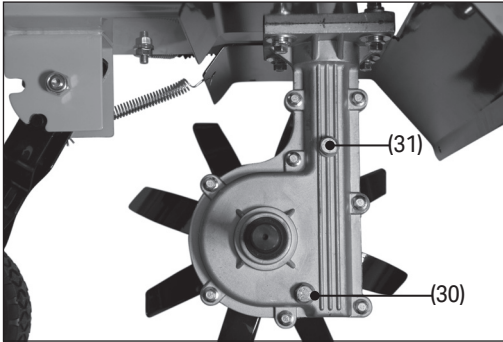

Fig. 26
2. Unscrew and remove the gearbox drain bolt (30) at the bottom of the gearbox column (Fig. 26).
4. Tighten the gearbox drain bolt and remove the gearbox filler bolt (31) at the top of the column.